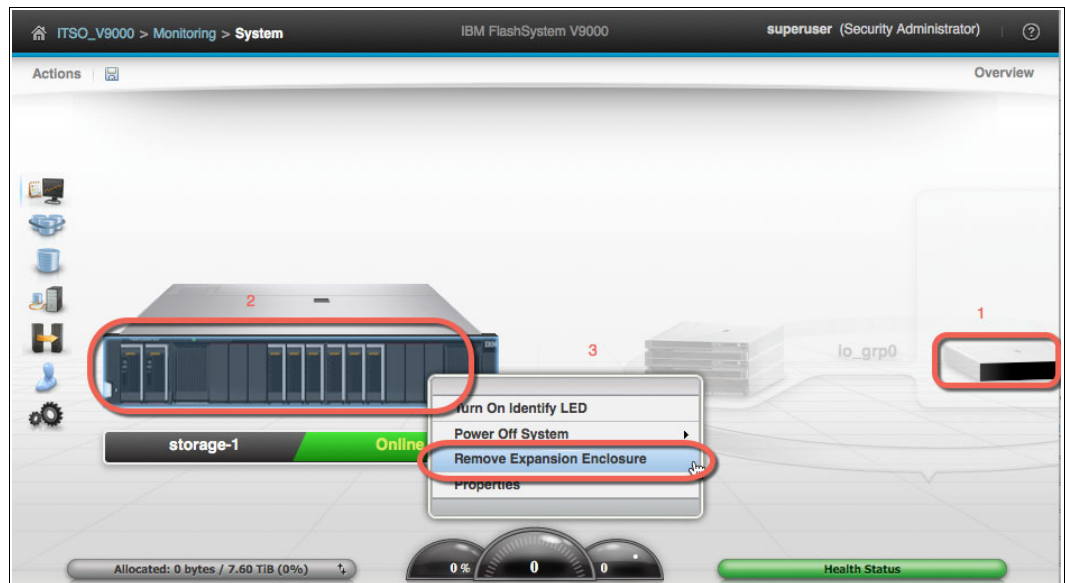

Figure 7-34 Complete removal of storage enclosure
9. Complete the removal of the storage enclosure as shown in Figure 7-34:
- a. Select the enclosure (1).
- b. Right-click over the exploded view (2).
- c. Select **Remove Expansion Enclosure** (3).